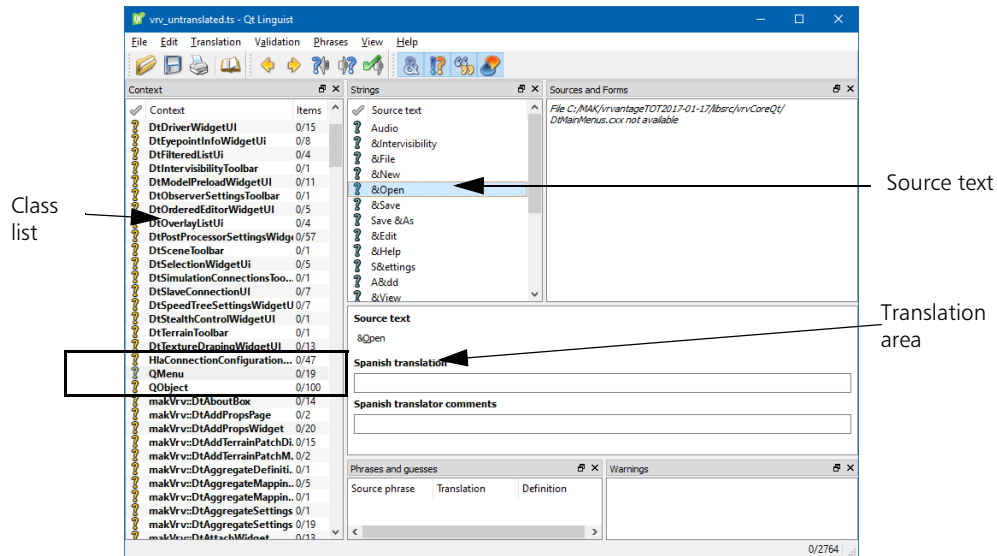

Figure 1-8. Linguist window
4. Click OK. The translation file is opened and a list of classes is displayed on the left side of the window (Figure 1-8).
5. To translate text, you select each class in turn and translate the text associated with that class. You do not have to understand anything about what the classes mean, you just have to translate the text. In Figure 1-8, *QMenu* is selected. The Strings window lists text that can be translated. Text that has not been translated has a question mark in the checkmark column.